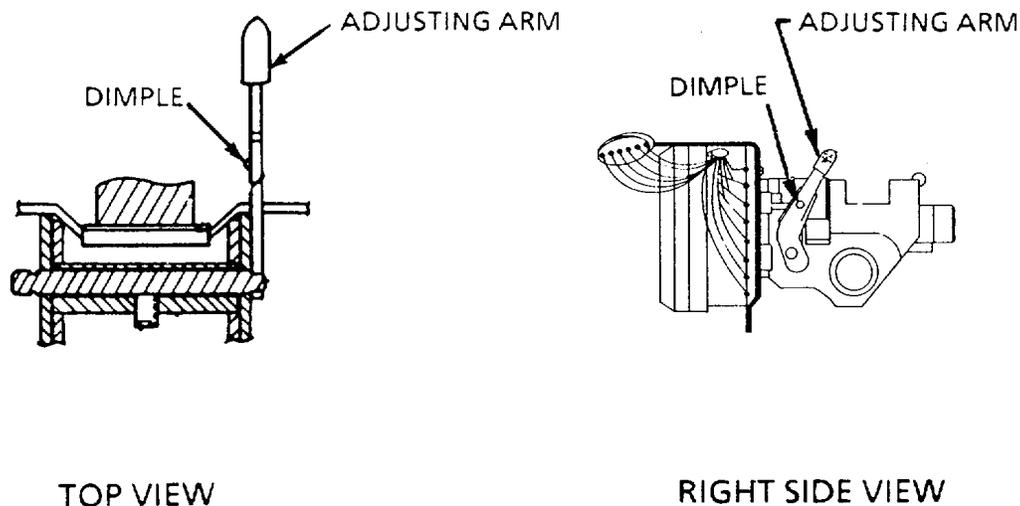

Figure 2-9. Head-To-Platen Gap Adjustment
- (1) Place power switch in OFF position.
- (2) Raise translucent window on top of printer.
- (3) To widen space for multithickness paper, move lever back to fourth or fifth lever position.
- (4) To narrow space for single-thickness paper, move the lever forward to first or second lever position. See figure 2-9.
- (5) Lower translucent window on top of printer.